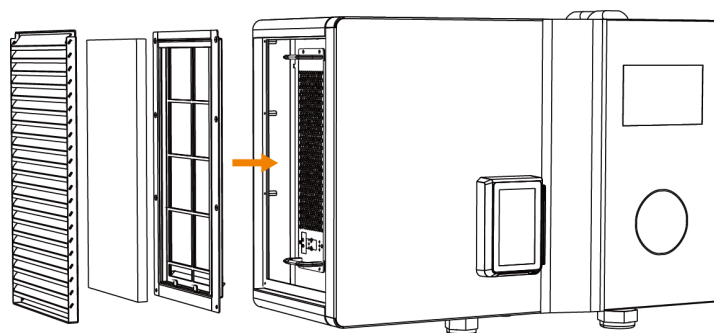

**FIG 15: MODULE INSTALLATION DIAGRAM**
**Step 7:** Put the charging module into the charging box (remove the louver from the left side), and then tighten the four screws fixing the module and the charging box, as shown in FIG. 15 and FIG. 16.